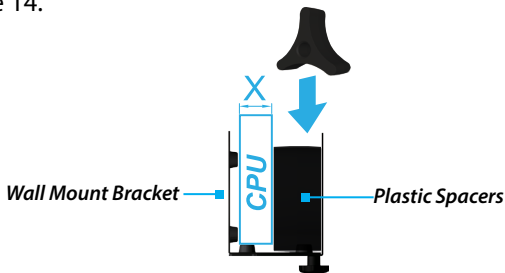

Figure 14
If installing the **CPU** along the **Width (X)**, one or two **Plastic Spacers** may need to be installed to keep the **CPU** secured. Figure 14.